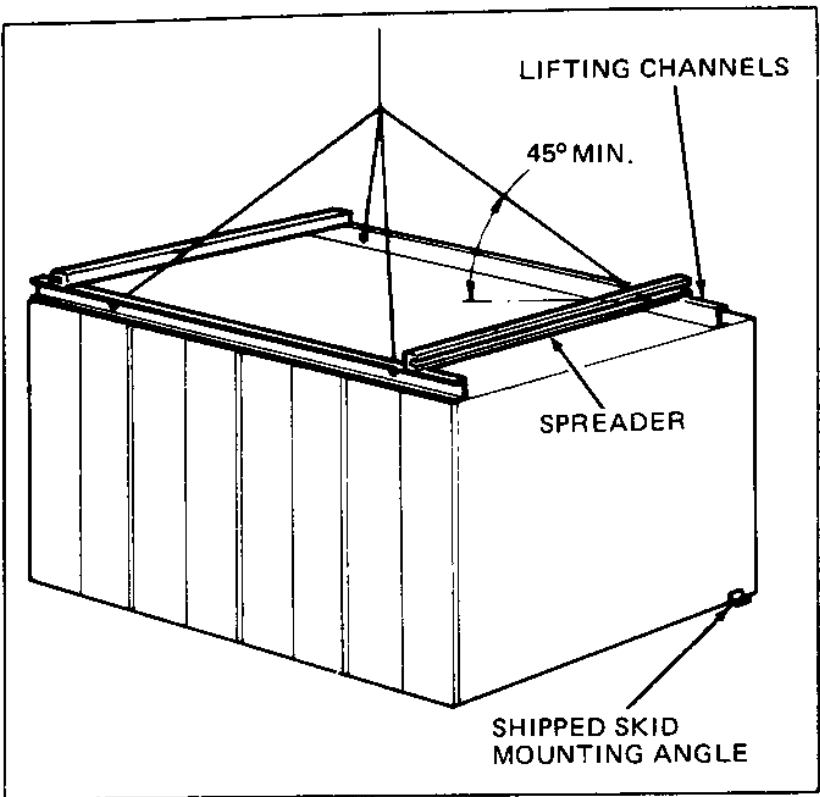

Figure 1. Lifting 34.5 kV Indoor Switchgear
34.5 kV Indoor Switchgear (See Fig. 1)